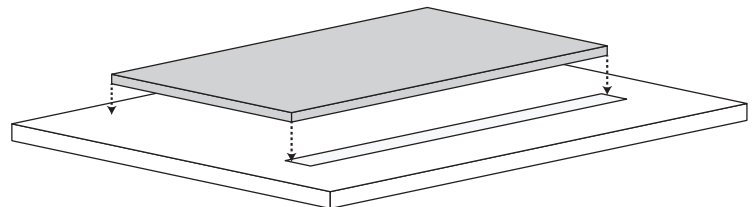

FIGURE 16.3
STEP 3 (FIGURE 16.3): Position the first board on top of the combustible floor where the base plate will be placed. Remember to place the board so that the safety strip protrudes a minimum of 3" from the front of the riser kit.